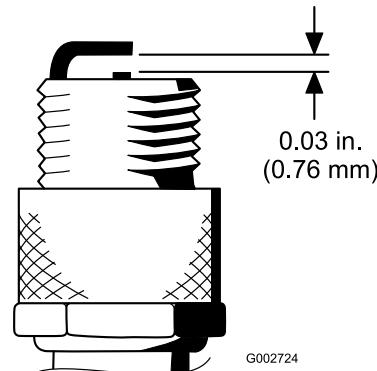

Figure 44
- Set the air gap between the center and side of the electrodes at 0.030 inch (0.76 mm) (Figure 44).